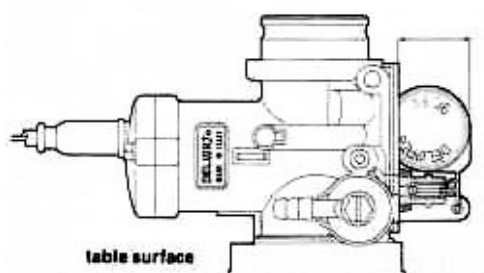

fig. 13
- for connected floats, hold the carburettor body in the position shown in **fig. 13** and check that the float is at the correct distance from the carburettor body face as specified in the table.